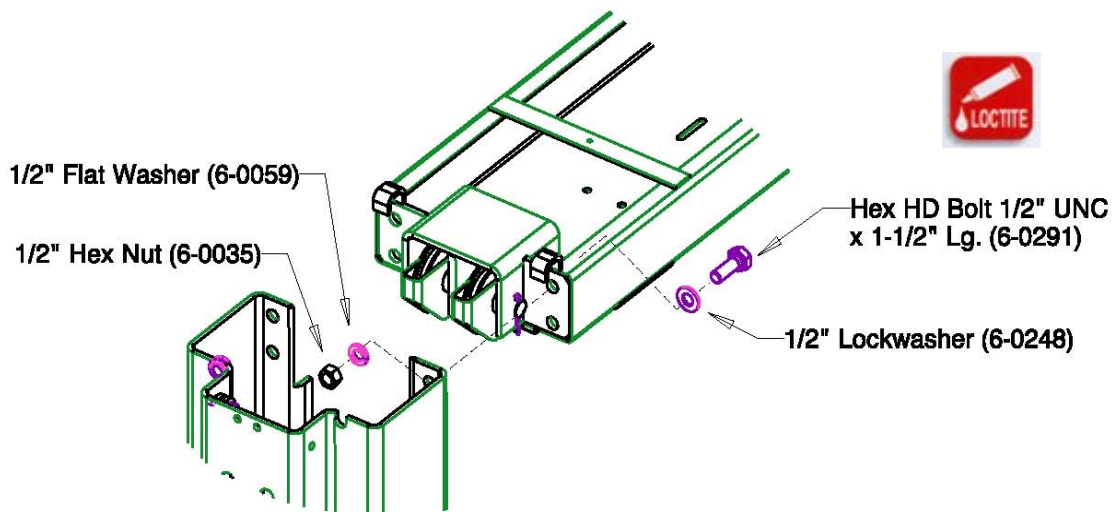

Figure 6 – Crossmember Assembly
4. Using a stepladder, install the crossmember using eight (8) 1/2"-16UNC x 1 1/2" lg. hex head bolts, eight (8) 1/2" ID lock washers, eight (8) 1/2" hex nuts and eight (8) 1/2" flat washers. See **Figure 6**.